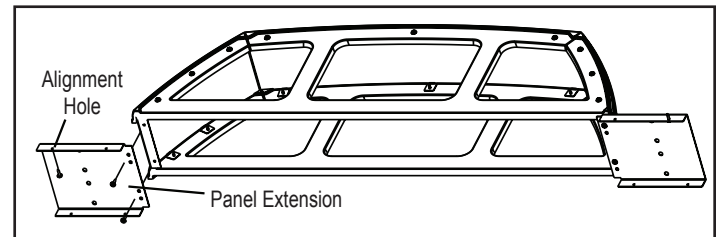

Figure 22.5
6. Attach the hearth support panel extensions. **Figure 22.5.**